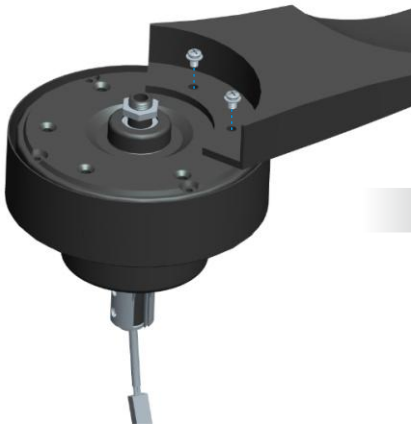

Fig 1.1
1.1 Locate 6 blade attachment screws in the hardware pack. Make sure each blade matches the corresponding place of the motor hub and tighten with the screws as shown in Fig 1.1.